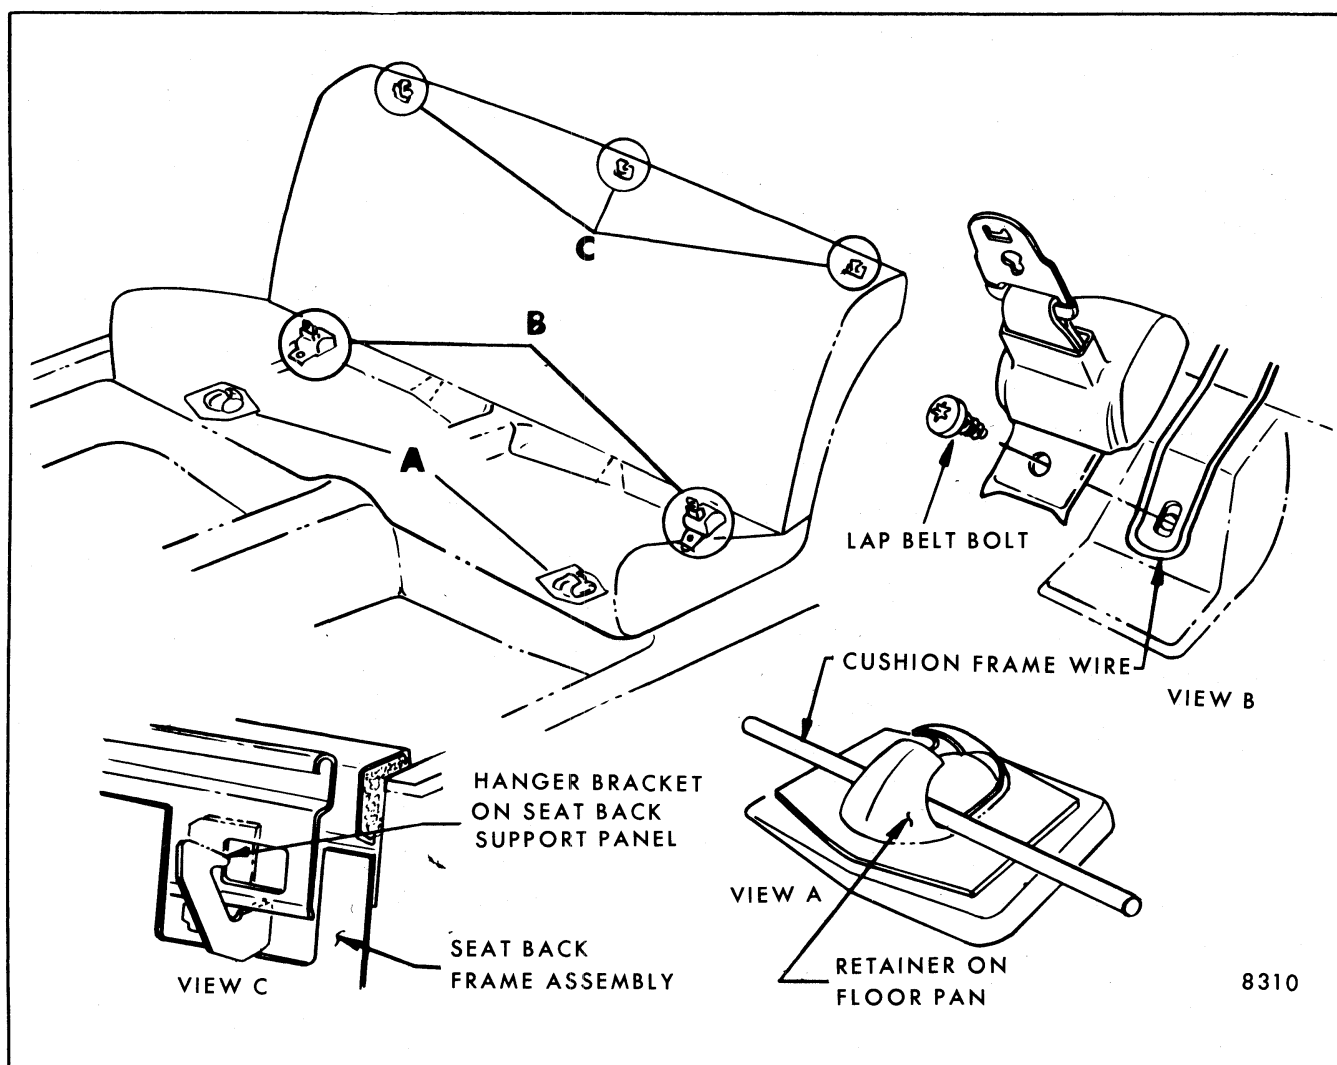

Fig. 9-68-Rear Seat Cushion and Back Installation - "B-C-D-E" Body Styles Except Station Wagon
Push lower forward edge of seat cushion rearward; then lift upward and pull forward on seat cushion frame to disengage cushion frame wires from retainers on rear seat pan (Figs. 9-68, 9-67 and 9-69).
2. Align wire protrusions on front of seat cushion frame with retainers on floor pan (Fig. 9-68). Push seat cushion assembly rearward until protrusions engage in retainers; then press down and pull cushion forward to fully engage in retainers.
2. At bottom of seat back, remove bolts securing rear seat outer lap belt retractors. On convertible styles, remove screw from rear side of seat back panel support securing upper corners of seat back to panel (see Figs. 9-68 and 9-70).